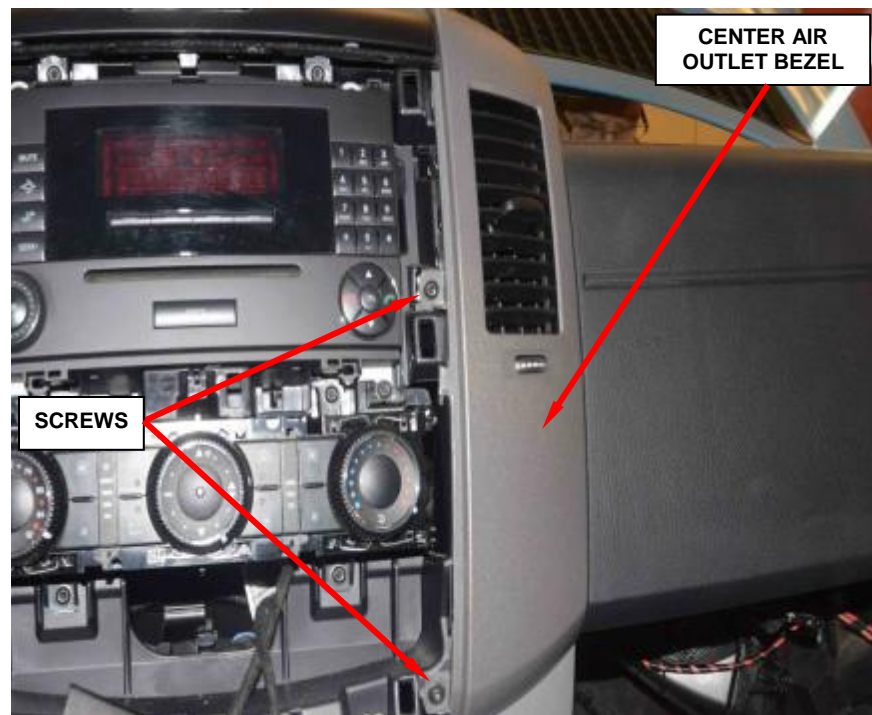

Figure 151 – Center Air Outlet Bezel
12. Remove and save the two center air outlet bezel screws and remove the bezel (Figure 151).